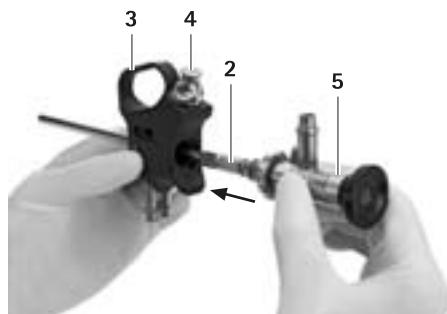

Fig. 4
- Slide MINOP TREND suction/irrigation sheath 2 with MINOP TREND endoscope 5 into the rear of the handle until MINOP TREND suction/irrigation sheath 2 engages, see Fig. 4.